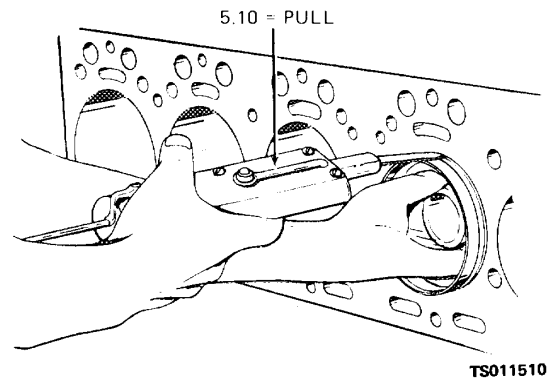

Figure 4-14. Checking piston fit in cylinder bore.
(1) Check piston fit in the cylinder bore (fig. 4-14), using a piece of 0.003-inch (0.0075 cm) feeler